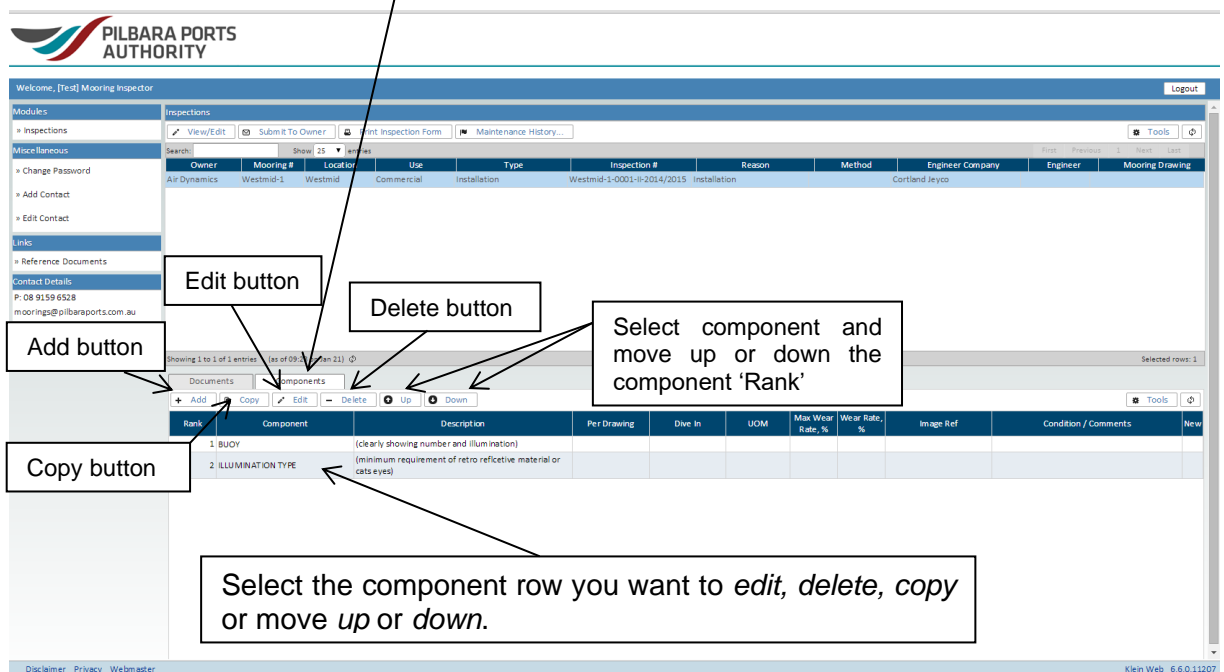

Figure 4.4
- To view the list of components, Figure 4.4 (points to 'Components' tab)
- To add a component to the list, press the ‘Add’ button as shown in figure 4.4. This box will now appear, use the scroll down box for the component type and fill out all the information in the non-shaded areas (fields with a * are mandatory), **upload the inspection image**, then press ‘Execute’. Add as many components as necessary.
- To copy a component that’s already in the list, select that component and press the ‘Copy’ button (as shown in figure 4.4). This screen will now appear, edit if required, upload the image as inspected, then press ‘Execute’.
- To edit a component, select the row and then press ‘Edit’, see figure 4.4. This screen will now appear, change or add any information necessary, including the inspection image, in the non-shaded areas and then press ‘Execute’.